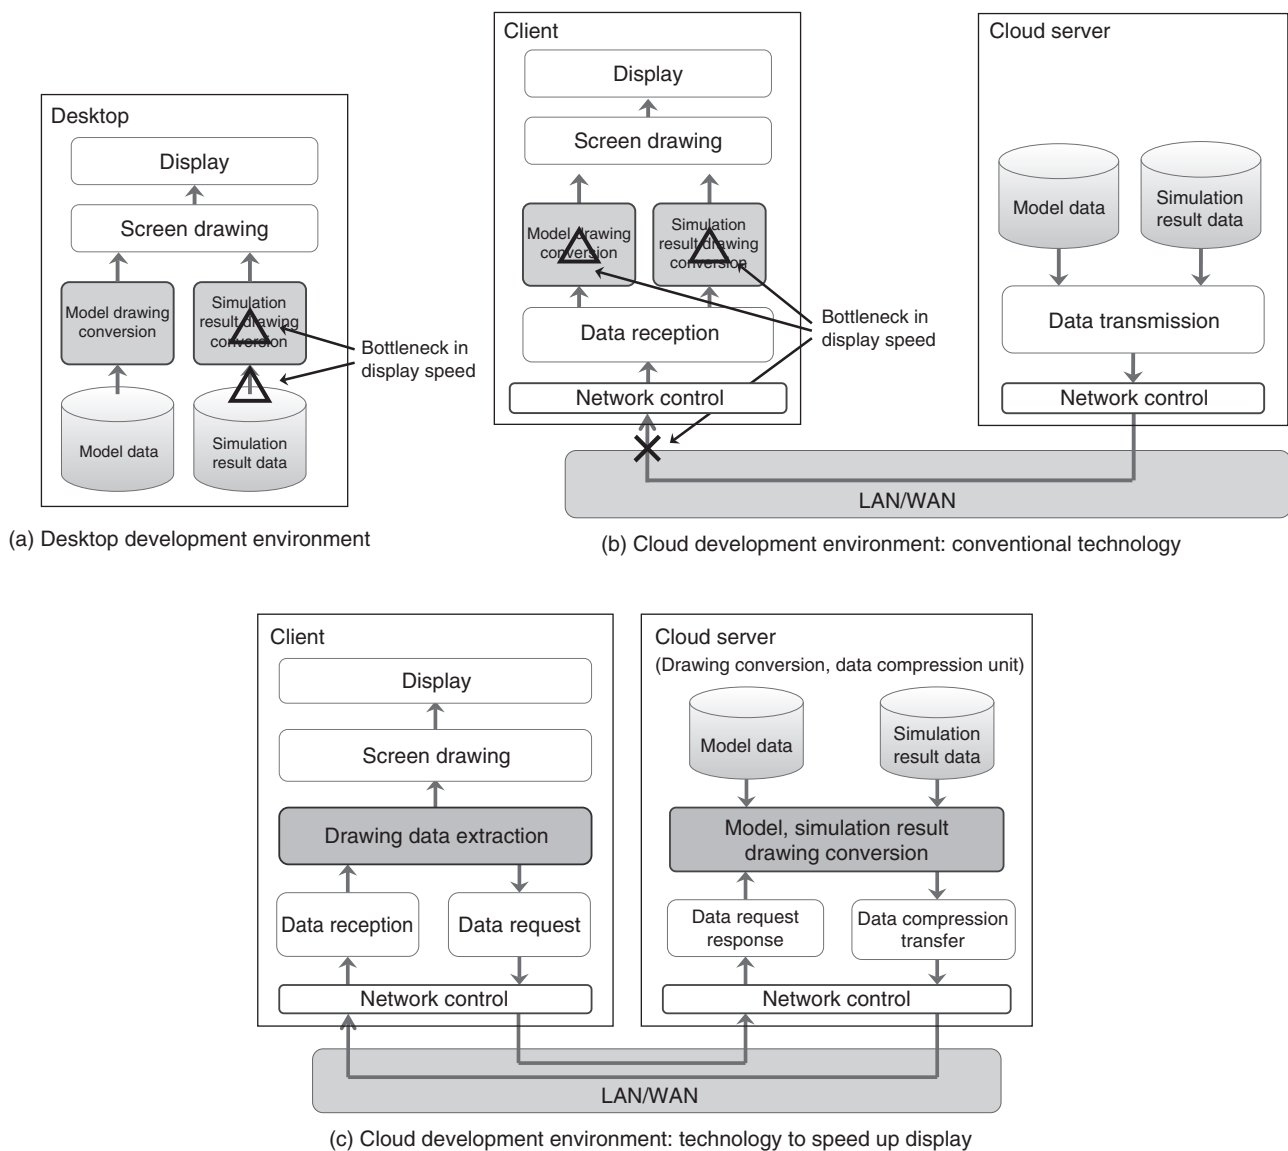

Figure 6
To display this simulation result as an image, reading the simulation result data for conversion into screen drawing data was a bottleneck in the display speed. Accordingly, high-speed display was difficult [Figure 6 (a)] even in the normal desktop development environment. The situation is even more adverse in a cloud development environment. This is because there is possible network congestion due to LAN/WAN connection and the difficulty of transferring a large amount of data and the network transfer rate causes a bottleneck in the display speed [Figure 6 (b)]. For this reason, displaying the example in Figure 5 takes approximately 3 seconds per observation time (0.3 frames per second) with the conventional display technology. To make a cloud development environment free of stress for developers, achieving a smooth image display has been a challenge.
- 1) Compresses drawing data when converting them from model and simulation results on the cloud server, sends the compressed data to a client via the network and extracts them on the client to restore screen drawing data [Figure 6 (c)].